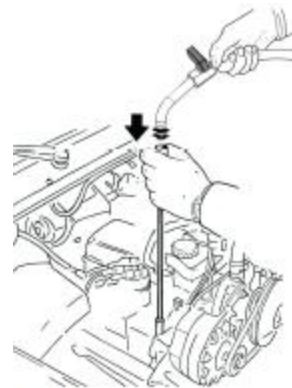

FIG. 2
- Connect the nozzle of the suction pipe to the probe dipped in the engine. (figure 2))